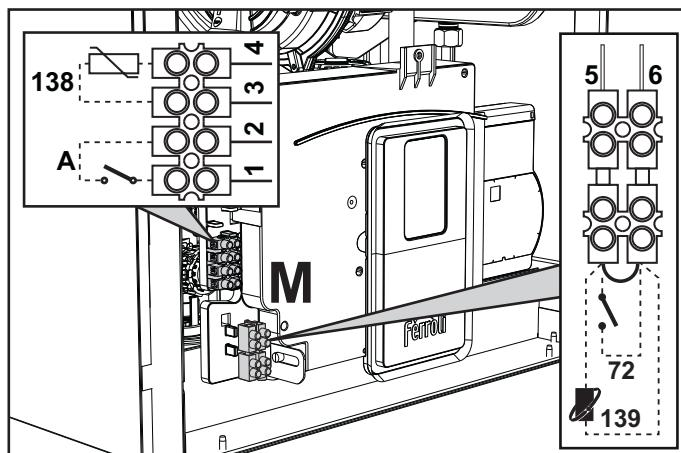
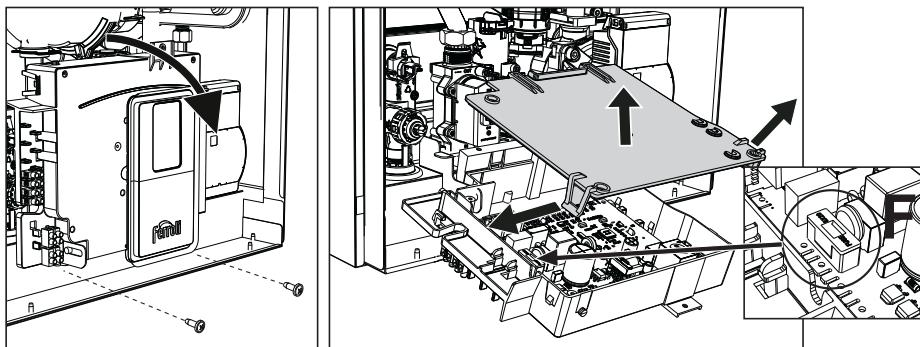

fig. 28
fig. 29
Remove the front panel ("Opening the front panel" on page 334) to access the terminal block (M) and fuse (F) by proceeding as follows (fig. 28 and fig. 29). **The terminals indicated in fig. 28 must be with voltage-free contacts (not 230V).** The arrangement of the terminals for the various connections is also given in the wiring diagram in fig. 67.
**ON/OFF (A fig. 28) configuration**